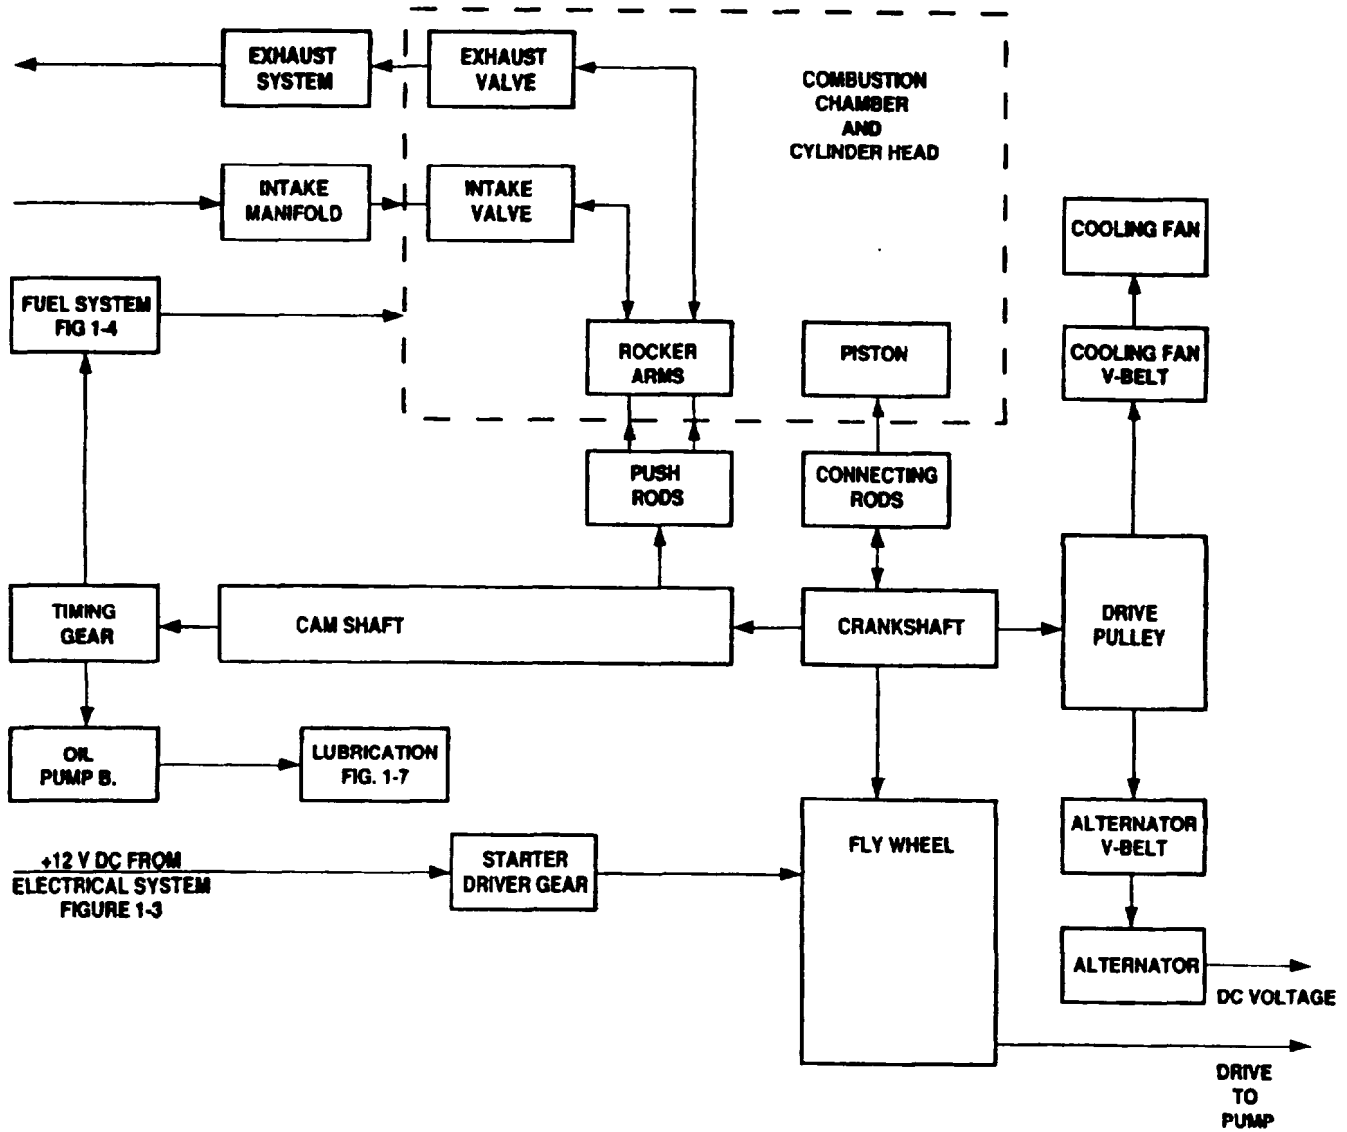

Figure 1-6. Engine Functional Block Diagram(All Models)
**1.14.2.5 Engine Assembly.** The engine assembly (figure 1-6) is started as described in paragraph 1.14.2.3 and 1.14.2.3.1 and provides the drive for the 350 GPM pumping assembly. When the engine is started, starter motor B1 turns the crankshaft. When the crankshaft is turned, the pistons and valves move up and down. While one of the pistons is moving upward, fuel is injected into the combustion chamber and mixed with air at a controlled rate. The temperature inside the combustion chamber causes the fuel and air to burn (combustion). This combustion forces the piston downward, which causes the crankshaft to rotate and the engine to start. The starter motor B1 is then disengaged. The up and down movement of the pistons continues with fuel being injected into selected cylinders. The rotation of the crankshaft also turns the camshaft and timing gears. The timing gears turn the oil pump and the fuel pump. Oil is pumped through the lubrication system and fuel is pumped to the fuel injectors. In addition, the drive pulley rotates and drives the V-belts. The V-belts operate the cooling fan and alternator, The cooling fan keeps the oil and engine cool to prevent overheating. The alternator provides 14 V dc. The following paragraphs provide a more detailed description of diesel engine operation.